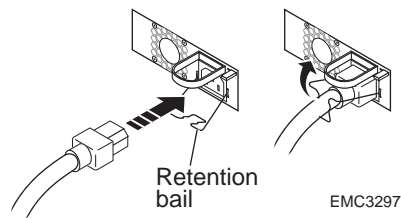

FIGURE 15. Plugging the Power Cord into an SSR212PP-Series Power Supply
- STEP 5.** Pull the wire retention bail into place, and then plug the ac power cord into the new supply. Attach the retention bail for strain relief (Figure 15).